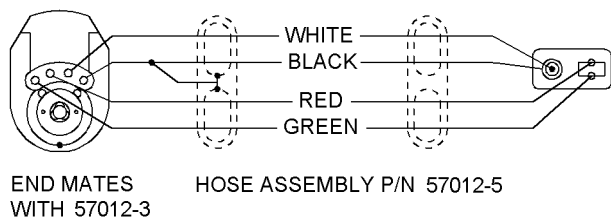

Figure 15-4. Oxygen Regulator Hose Wiring Diagram
15-33. To perform the insulation breakdown and electrical continuity check when the TTU-489/E is not available, see Figure 15-4 and proceed as follows:
2. Using an ohmmeter or its equivalent, perform electrical continuity test by checking continuity of each wire at its respective termination point according to Figure 15-4.